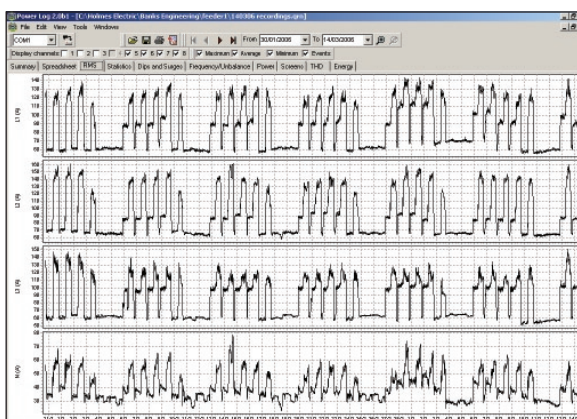

Figure 4. Power Log graphs showing detailed current records.
5. **Download and review the measurements.** For 30 days of recording, with a measurement every 15 minutes, you will have 2880 sets of measurements. Use Power Log to graph this data, find the average current or power on each phase, compare the three phases and report the largest number. Figure 4 shows three phase-current recordings, zoomed in to show detail.